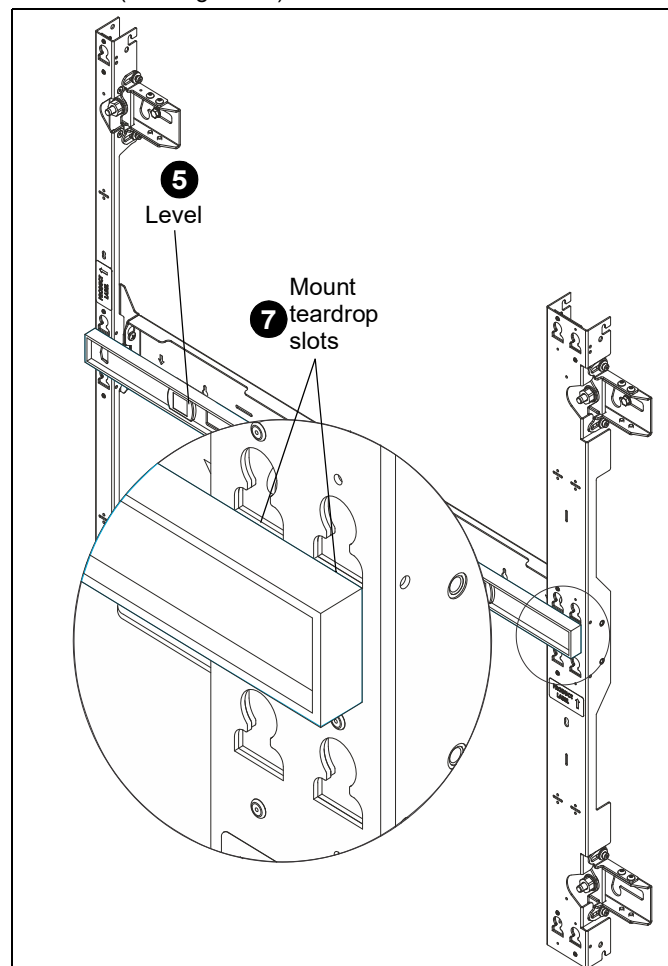

Figure 12
6. Place a level across front of the mount at bottom of teardrop slots. (See Figure 12)
7. Check the level of the mount at the bottom of the teardrop slots. (See Figure 12)